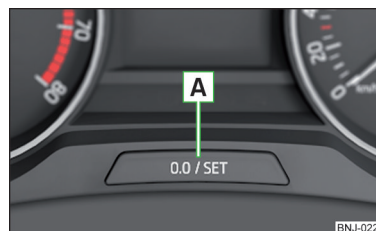

Fig. 27
- Press and hold the button **A** » Fig. 27 until the **Service** menu item is shown in the display.